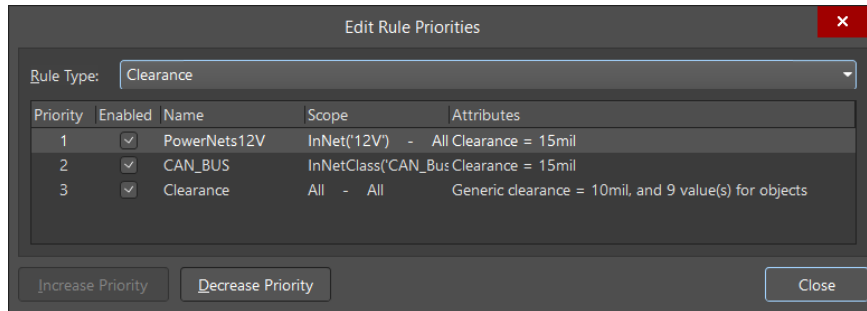

Figure 5. Rule Priorities window
19. Ensure that the newly added rule's priority is number **1** as shown in Figure 5 below. If it's not, select that rule and click **Increase Priority**.